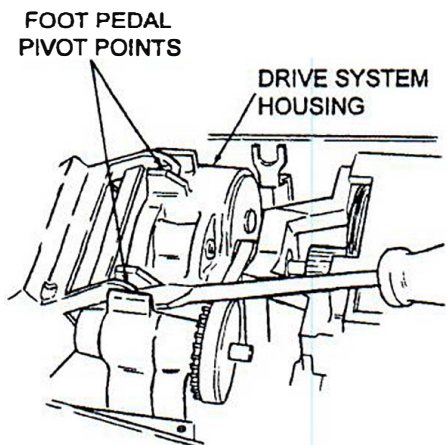

Figure 14. Foot Pedal Removal
- A. *See Figure 14.* Using a thin flat blade screwdriver, carefully pry the pivot points of the power switch foot pedal off the pivot pins formed in the drive system housing.
1. See Figure 14. Apply a thin layer of T159S grease to both tabs at top of housing.